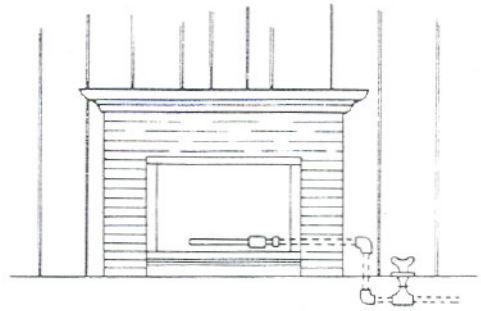

FIG. 1
Nail Hanger straps to wood members of boxed opening (Fig. 1) using at least 3 nails per strap, min. 8-penny size. (Firestop Spacer installs "downward" when straps fasten to joists). If hanger straps are located where they cannot reach joists, install wood members appropriate for nailing.
- (b) If installing a log lighter, use only a model having a valve designed for installation outside the fireplace. A removable key affords extra safety. (Such a model is shown in (Fig. 1).
1. The **TERMINAL CAP** completes the upper end of the Mark 700 Chimney. The topmost Chimney Section **MUST** end within the 6" height range of the Terminal Cap collar, as shown in Fig. 1. (It is necessary to utilize 3', 2' and 6" Chimney Sections in appropriate quantity to insure that the topmost Chimney Section ends within this range.)